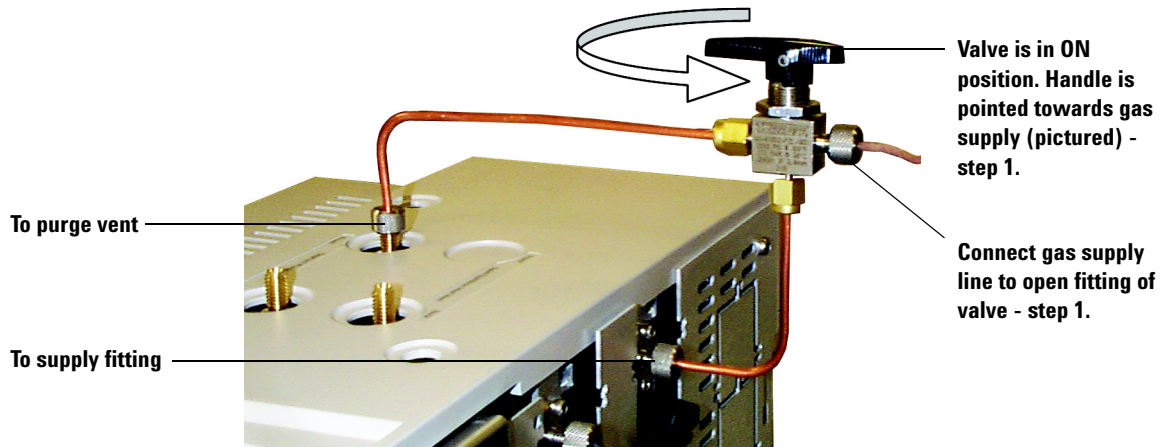

Figure 1 Inlet EPC Leak Test Fixture attached to a COC inlet
- 1 Install the Inlet EPC 3-Way Valve Leak Test Fixture, G1530-80510, as shown in Figure 1. Be sure O-rings are in good condition and that brass knurled fittings are adequately finger tightened. Turn the 3-Way Valve to the “ON” position as pictured in Figure 1.
- 1** Install the Inlet EPC 3-Way Valve Leak Test Fixture, G1530-80510, as shown in Figure 1. Be sure the O-rings are in good condition and that brass knurled fittings are adequately finger tightened. Turn the 3-Way Valve to the “ON” position as pictured in Figure 1.